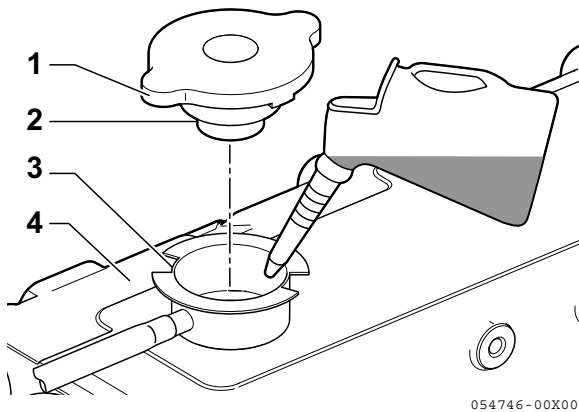

Figure 12
3. Pour coolant slowly into coolant tank (**Figure 12, (4)**) to avoid air bubbles. Fill until coolant overflows from the filler port.
4. Align filler cap tabs (**Figure 12, (1)**) with filler port notches (**Figure 12, (3)**) and tighten filler cap (**Figure 12, (2)**) firmly.